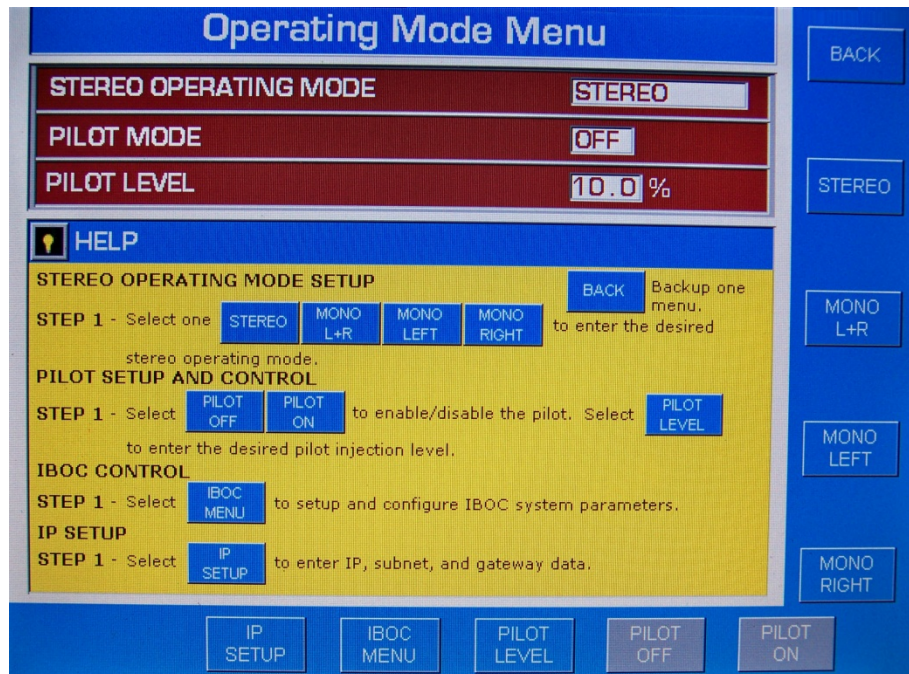
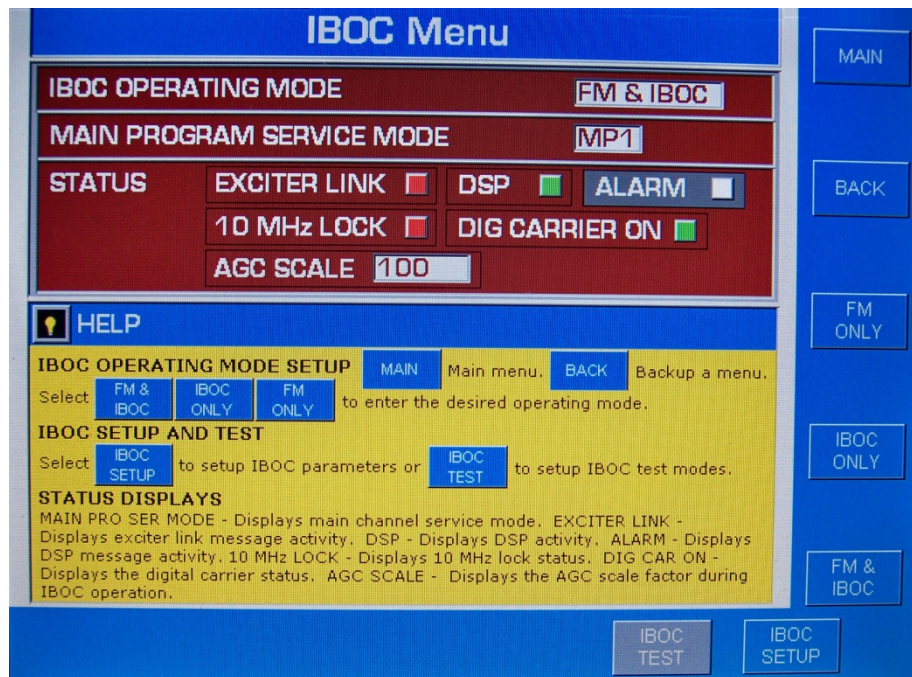

Figure 3-9. OPERATING MODE PROGRAMMING
Figure 3-11. IBOC MENU
1. On the Main Menu, depress OPER MODE. The Operating Mode Menu will appear (refer to Figure 3-9).
1. Refer to Figure 3-9. On the Main Menu, depress OPERating MODE. The Operating Mode Menu will appear.
IBOC mode operation is accessed through the Operating Mode (Oper) Menu (refer to Figure 3-11 Figure 3-9). For exciters without the optional IBOC circuit board, the IBOC operating mode will be disabled.